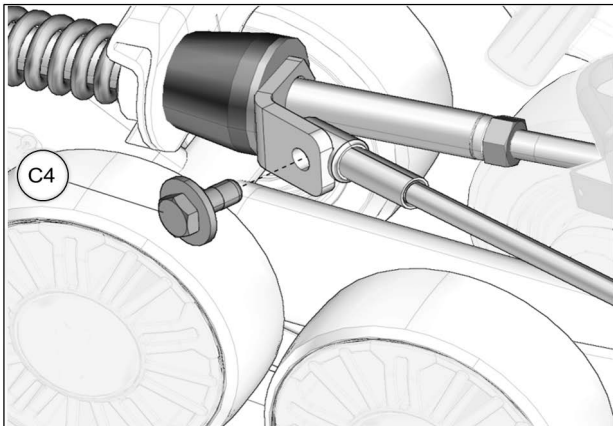

Fig. 26
18. Reverse steering wheel a little to be able to bolt support plate and cable together. Tighten provided bolt (C4) to 35 Nm [24 lb•ft]. See Fig. 26. Repeat steps on right side.